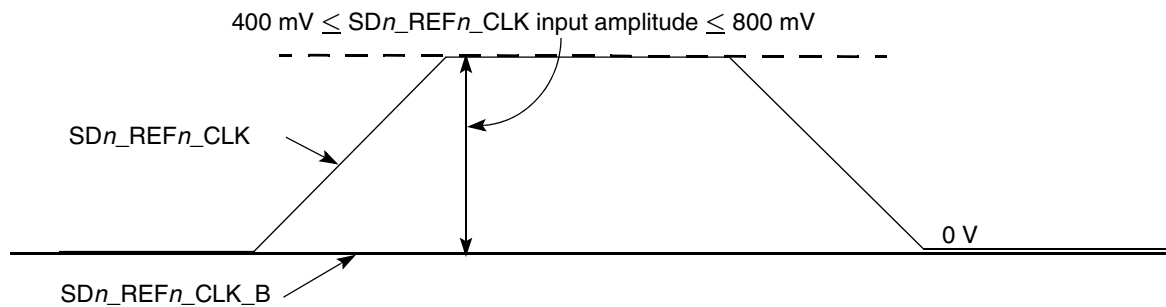

Figure 36. Single-ended reference clock input DC requirements
- The SDn_REFn_CLK input average voltage must be between 200 and 400 mV. Figure 36 shows the SerDes reference clock input requirement for single-ended signaling mode.